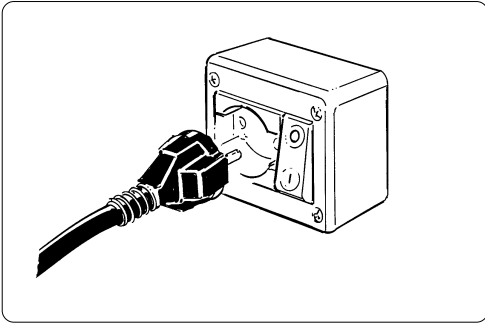

Fig. 3
- For a safe and correct installation, it is necessary to provide for a special outlet, with contacts having an open distance equal to or greater than 3 mm, controlled by a unipolar circuit breaker, conforming to current national security standards (see fig. 3).